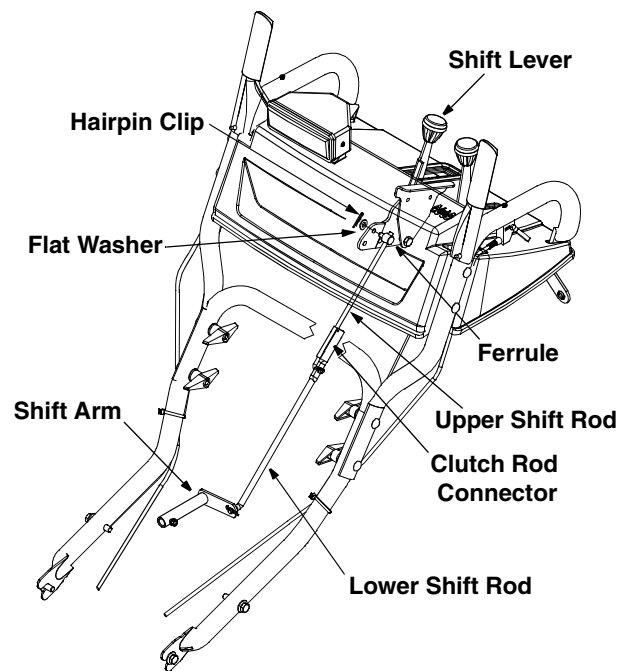

Figure 12
- Place shift lever in sixth (6) position or fastest forward speed.
- Rotate the ferrule up or down on the shift rod as necessary until the ferrule lines up with the upper hole in the shift lever. Refer to Figure 12.